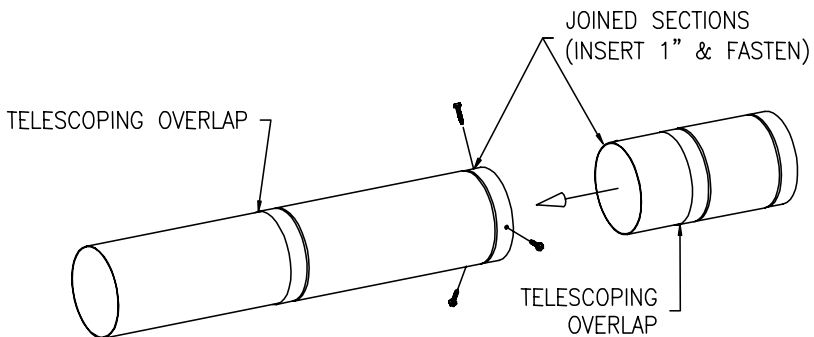
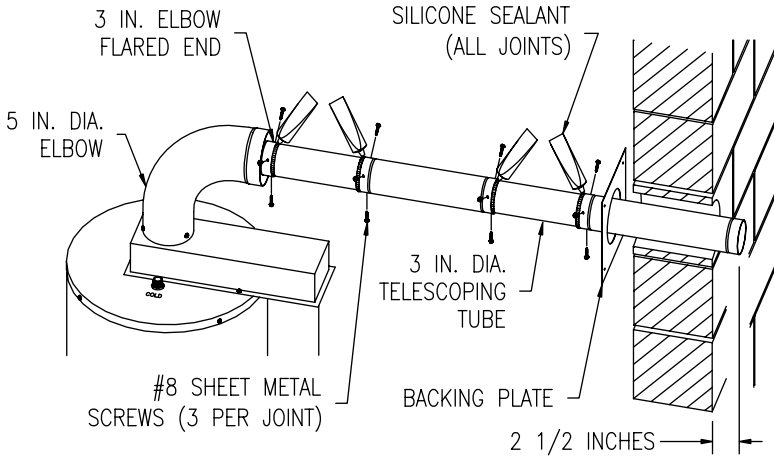

Figure 15b
Figure 15c
Extend the three (3) inch (7.6 cm) diameter telescopic tubes to their maximum lengths. Join the tubes by inserting the small end of a tube into the large end of another, one (1) inch (2.5 cm) (or until seated). With a 1/8 inch diameter drill bit (not supplied), drill three (3) holes, 120° apart, through each joint where the three (3) inch (7.6 cm) diameter telescopic tubes are joined. At this time, DO NOT drill holes where the small and large sections of the three (3) inch (7.6 cm) telescopic tubes overlap. Fasten each joint with three (3) #8 sheet metal screws (supplied). (See Figure 15b). Slide the backing plate over the joined three (3) inch (7.6 cm) diameter telescopic tubes. Place the large end of the joined three (3) inch (7.6 cm) diameter telescopic tubes through the hole in the outside wall. Insert the smaller end of the joined three (3) inch diameter (7.6 cm) telescopic tubes into the flared end of the three (3) inch (7.6 cm) diameter elbow, one (1) inch (2.5 cm) (or until seated). Drill three (3) 1/8 inch diameter holes, 120° apart, through the three (3) inch (7.6 cm) diameter elbow into the joined three (3) inch (7.6 cm) diameter telescopic tube(s). Fasten with three (3) #8 sheet metal screws (supplied). Adjust the overall length of the joined three (3) inch (7.6 cm) diameter telescopic tubes so that 2-1/2 inches (6.4 cm) extends beyond the outside wall. Drill three (3) 1/8 inch diameter holes, 120° apart, through the joined three (3) inch (7.6 cm) diameter telescopic tubes where the small and large sections overlap. Fasten with three (3) #8 sheet metal screws (supplied). Using the supplied RTV silicone sealant, apply a sufficient amount to seal all joints. (See Figure 15c).